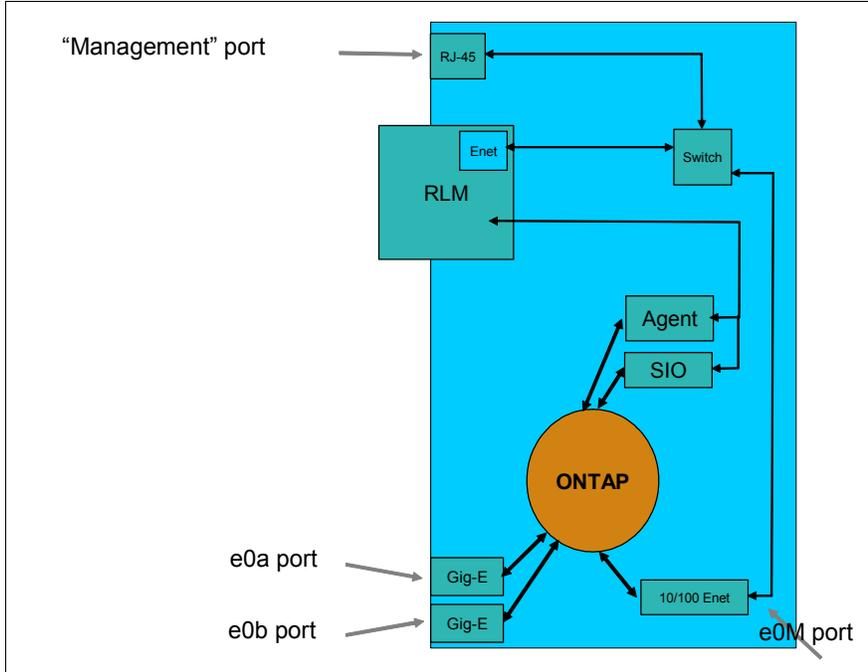

Figure 1-28 Ethernet internals
- ▶ Shares the same external connector as the RLM (See Figure 1-28 on page 30.)
On the N6000 series there is an Ethernet switch within the controller. The management port (Figure 1-28 on page 30) provides access to both the RLM and the e0M port. Management traffic is all 10/100. The link light on the management port indicates the link to switch, not to the RLM or e0M. The switch configures itself to allow traffic to flow in appropriate directions at power-up.